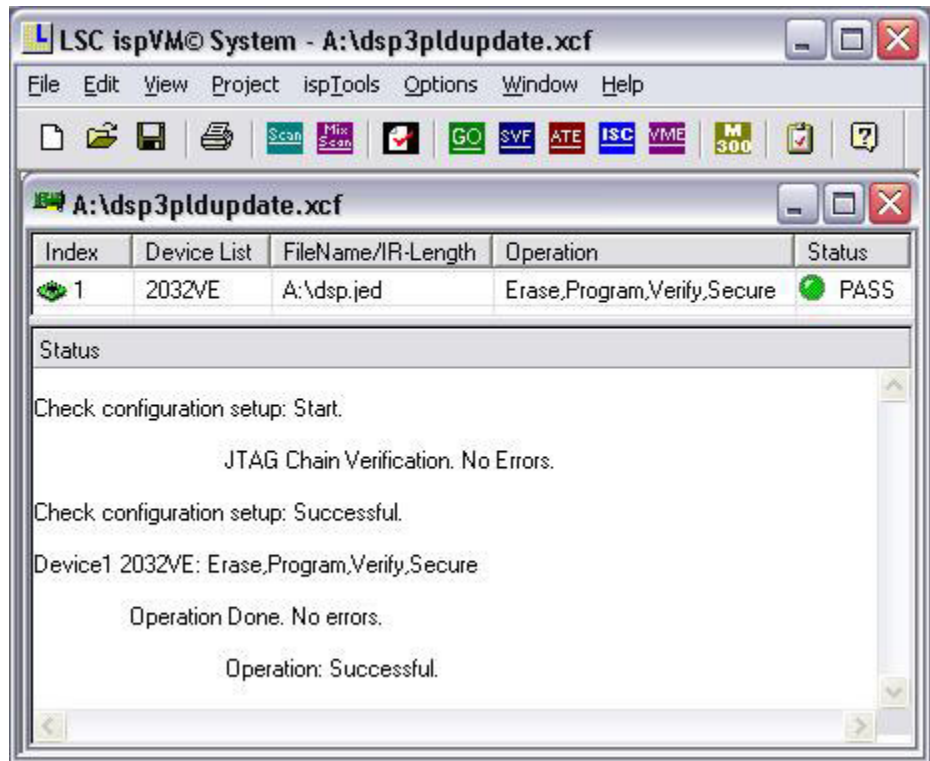

Figure 4. The operation is successful.
- Click the Go icon on the toolbar or click **Download** from the **Project** menu. The download process will take approximately 5 seconds, followed by a Pass indication in the Status column of the main window (Figure 4).